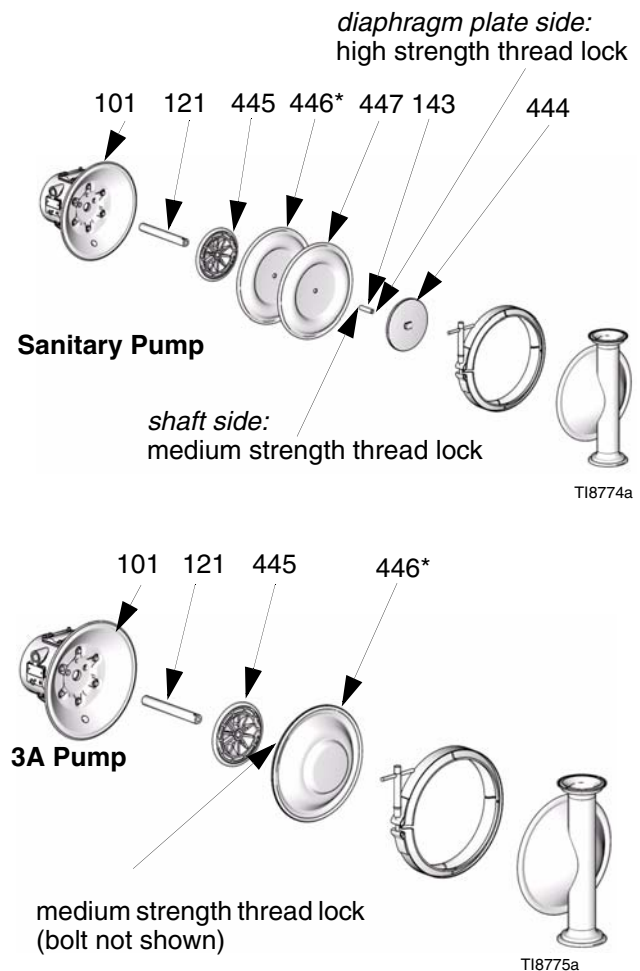

FIG. 19
1. Install the shaft u-cups (110) so the lips face **out** of the housing (101). Lubricate the u-cups. See reassembly of bearing and air gasket removal, page 24.
2. *Non 3A approved diaphragms:* Assemble diaphragm (446), backer (447) if present, and plate (445) onto plate (444) with screw (143). Rounded side of plate (445) should face diaphragm. Make sure the side marked AIR SIDE faces the center housing.
*3A approved diaphragms:* Assemble plate (445) onto diaphragm assembly (446). Round side of plate should face diaphragm.
- Thread locker must be applied to screw (143) and to threads of 3A diaphragm assembly as shown in FIG. 19 for all diaphragm assemblies.